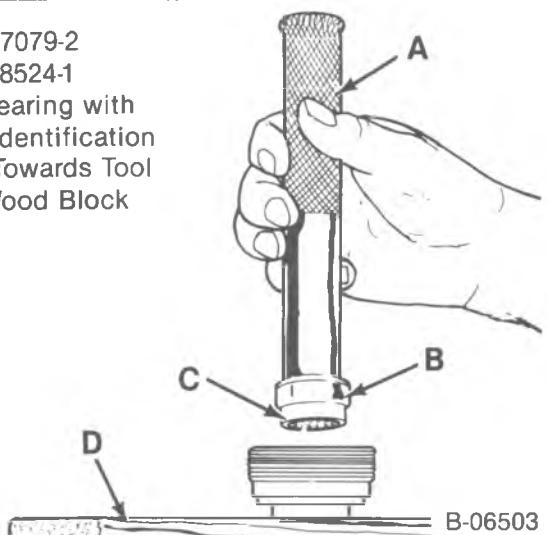

Figure 15—Installing the Needle Bearing
7. Valve body (250), seal (249), wormshaft (248), bearing races (246) and roller bearing (247).
8. Seal (239) on the adjuster plug (240).
9. Needle bearing (241) in the adjuster plug. Use J-8524-1 and J-7079-2 (figure 15).
10. Seal (242), washer (243), and retaining ring (244) in the adjuster plug (240).